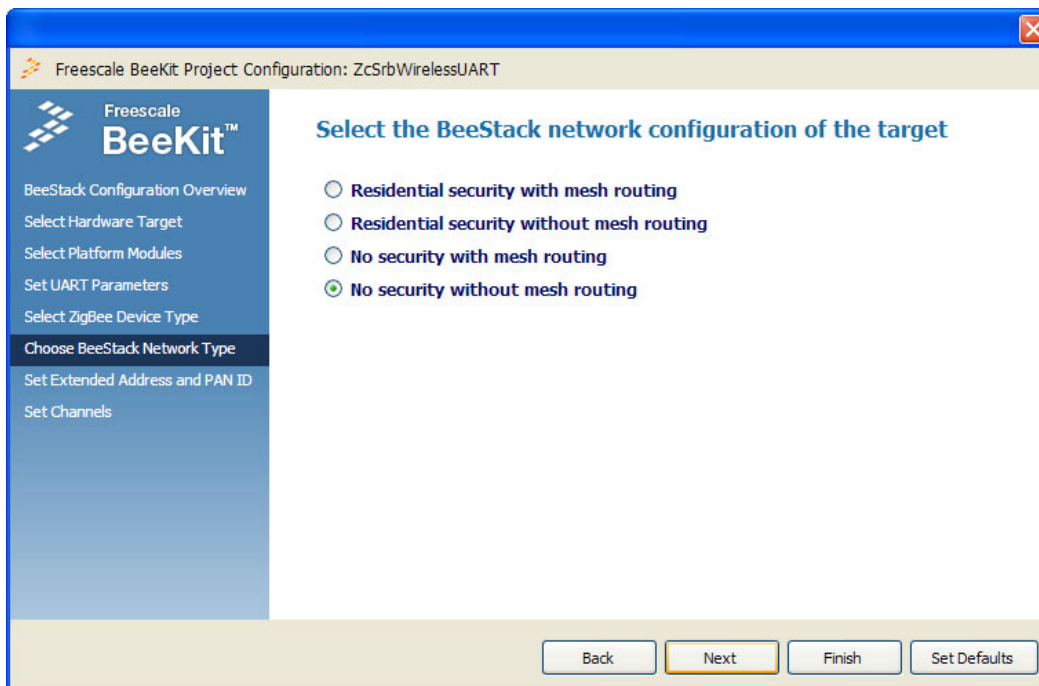

Figure 5-8. BeeStack Network Type Selection Page
- Click the Next button and the Choose BeeStack Network Type window appears as shown in Figure 5-8. Select the “No security without mesh routing” option.
5. Click the Next button and the Choose BeeStack Network Type window appears. Select the same network type using the same settings used for the Coordinator as shown in Figure 5-8. (No security without mesh routing).